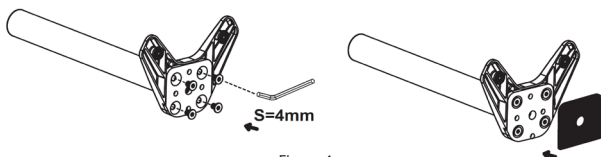

Figure 4
8. Insert the **Screws (x4)**, removed in step 6, through the **Grommet Plate** and into the **Pole Assembly** and tighten, using the **4 mm Hex Key**. (Figure 4)